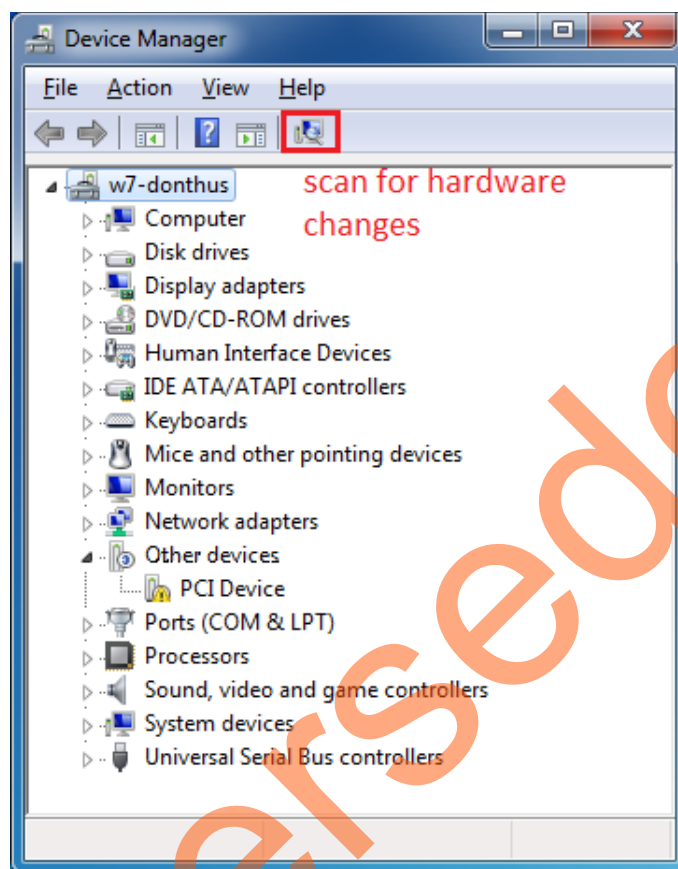

Figure 9 • Scan for Hardware Changes Option in the Device Manager Window
5. If the device is not detected, power cycle the SmartFusion2 Advanced Development Kit and click **scan for hardware changes** option in the **Device Manager** window. Figure 9 shows the **scan for hardware changes** option in the **Device Manager**.